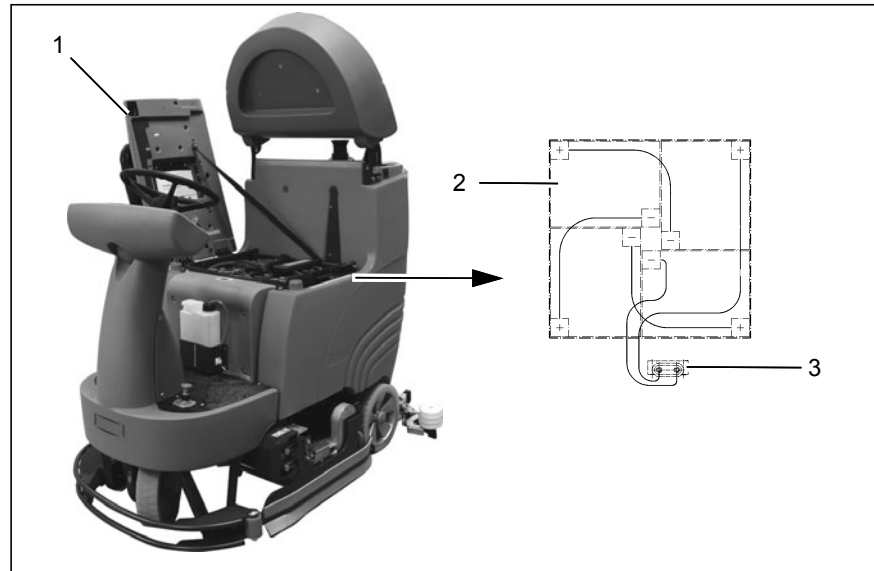

Fig.5
2. Open the seat console (Fig. 5/1).
4. Connect the battery poles in accordance with the connection diagram (Fig. 5/2).
6. Check the battery plug (Fig. 5/3), refer to Section 2.2.6.